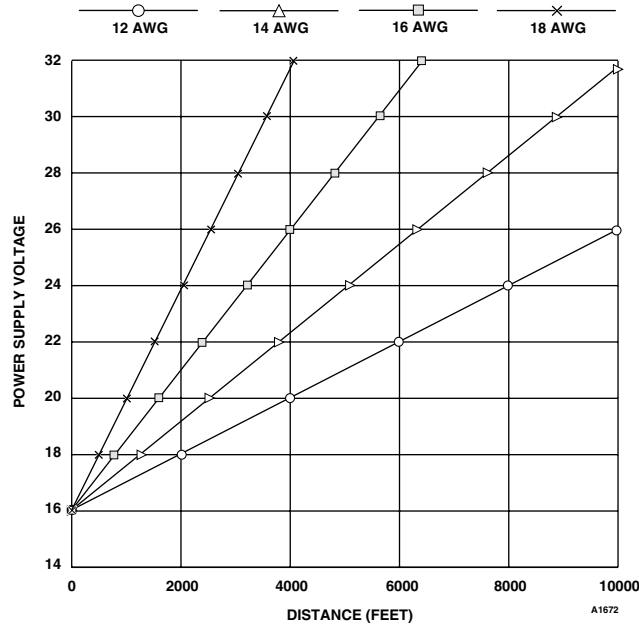

Figure 3—Transmitter Wiring Requirements for Combustible Gas and MOS H₂S Models with Relays
- Figure 3 — Transmitter Wiring Requirements for Combustible Models with Relays